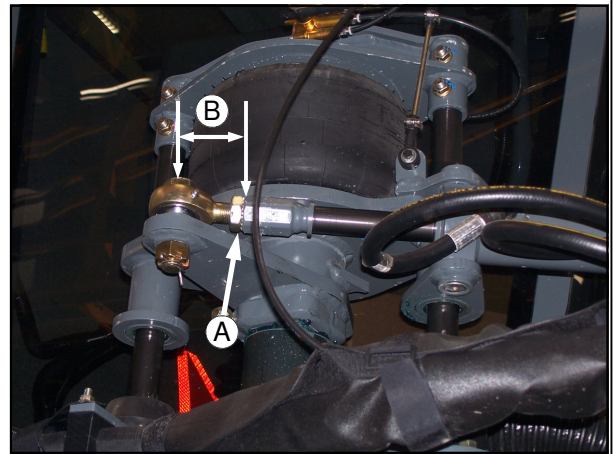

FIG 130-1
3. Screw swivel assembly in or out on steering cylinder until the measurement from the center of the rod end to the collar (fig. 130-1, item B) is the same on both of the front steering cylinders.